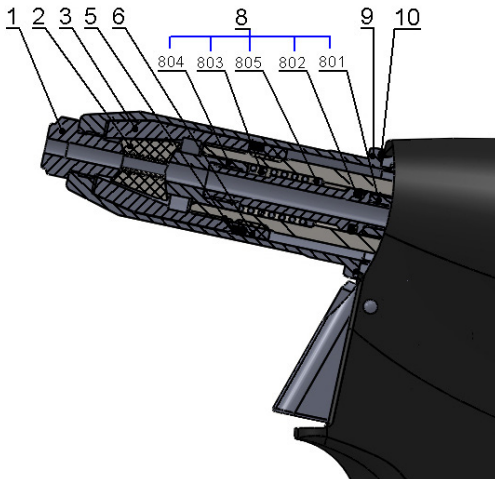
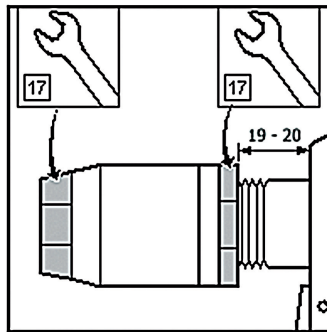

Fig.2
Fig.3
Disconnect the tool from the source of compressed air, unscrew the front nozzle /fig.2 - pos.9/ by means of a spanner no.23, set the spanner no.17(15) onto the clamping sleeve /fig.2 - pos.3/, set the spanner no.17 on the backnut /fig.2 - pos.6/ and loosen. Unscrew the clamping sleeve, replace the jaws /fig.2 - pos.2/ and conduit-suction complet /fig.2 - pos.8/. All used threads are clockwise. Clean the dismantled parts thoroughly and check them visually, especially the following:
- 1) Jaws /fig.2 – pos.2/ - if worn or damaged, replace it, if dirty, clean it with a wire brush.
- 2) Nose-piece /fig.2 – pos.1/ - for wear of functional surfaces of the taper.
- 3) Conduit-suction complet /fig.2 - pos.8/ - inspect parts of the assembly, jaw pusher /fig.2 - pos.804/, spring /fig.2 - pos.803/, washer of spring /fig.2 - pos.805/, O - ring /fig.2 - pos.802/ and conduit-suction /fig.2 - pos.801/ - if damaged or worn, replace it with a new one.
- 4) Front nozzle /fig.2 - pos.9/ - check for damage of the internal surface ($\varnothing 20$).
- 5) Scraper ring /fig.2 - pos.5/ - if damaged or worn, replace it with a new one.
Mount the parts (see par. disassembly) in a reverse order. On the outer surface of the jaws /fig.2 – pos.2/ apply a drop of lubricating oil (we recommend hydraulic oil HYSPIIN AWHM 32 CASTROL), apply thin layer of plastic lubricant MOGUL LV 2-3 to the conduit-suction complet /fig.2 – pos.8/. Basic set-up of the jaws is performed as in fig. 3.